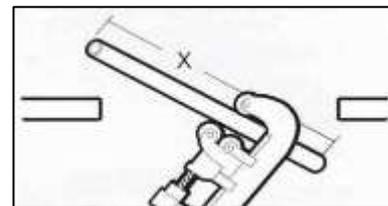

Figure 8
- Cut out section of main water supply line downstream from the supply shut off, at position water filter is to be installed. Using a pipe cutter, sand (file) cut ends of pipe to assure that they are square and smooth. (Fig 8).